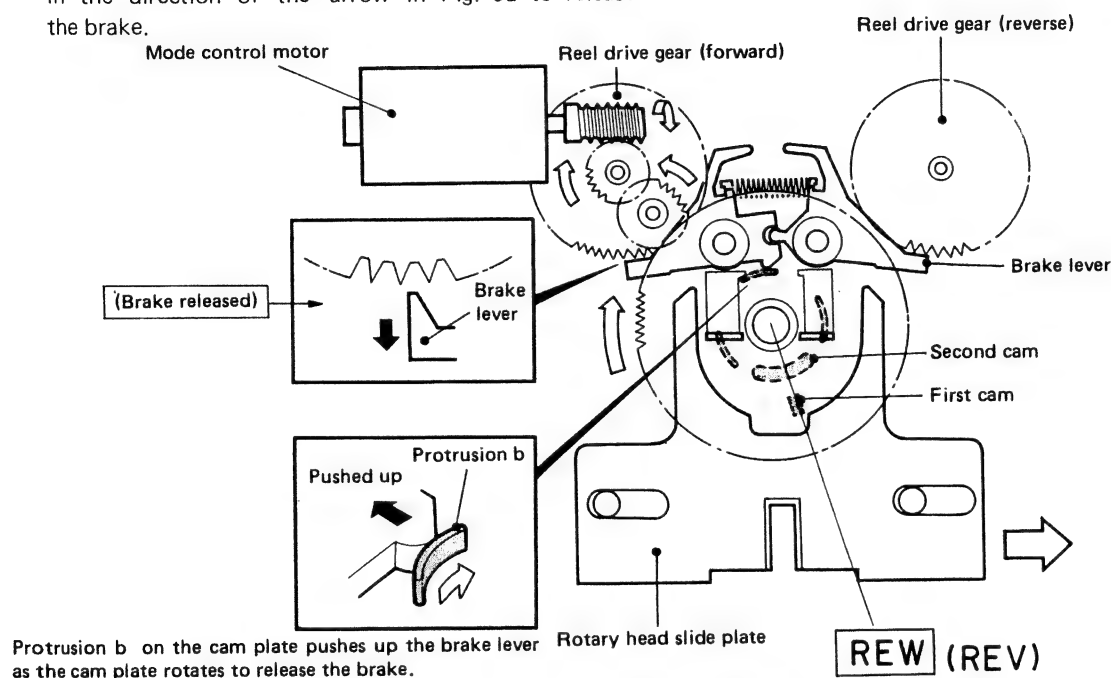

Fig. 9a (rear view)
- 2) In this state of the mechanism, the brake cam turns in the direction of the arrow in Fig. 9a to release the brake.